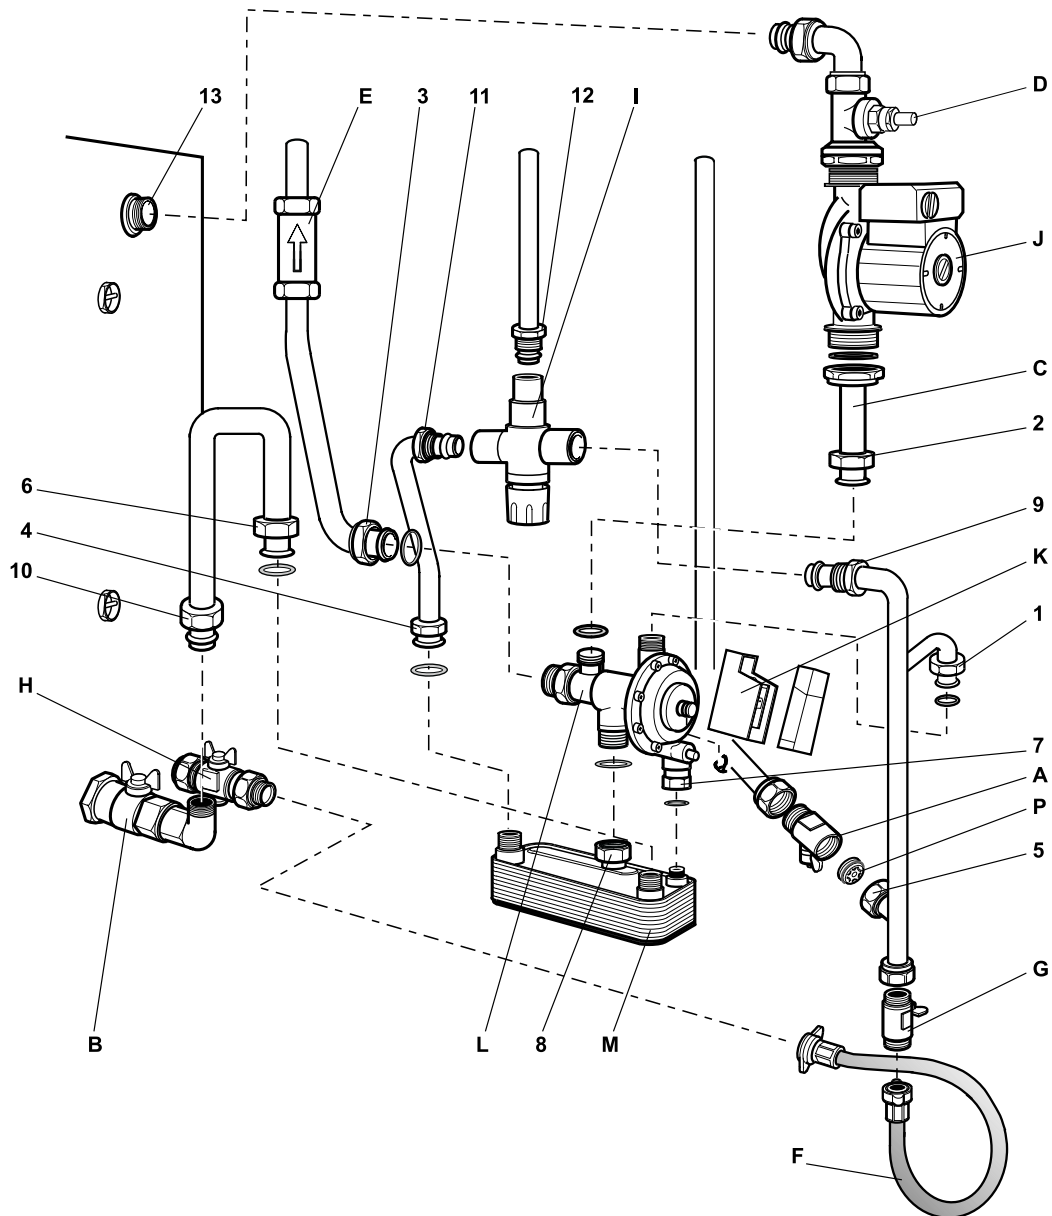

Fig. 38 - Combi 70 water components/connections
- 10 Open the cold water inlet valve (A) and primary return isolating valve (B) and pump isolating valve (D). Refill the central heating system as described in section 5.2, checking for leaks.
- 2 Unscrew and disconnect pipe unions 1, 5 & 9. See Fig. 38 or 39. Remove the vertical 15 mm pipe from the boiler.
- 6 Open the cold water inlet valve (A). Refill the central heating system as described in section 5.2, checking for leaks.
- 2 Close the cold water inlet isolating valve (A). Refer to Fig. 38 or 39.
- 3 Unscrew and disconnect pipe unions 1, 5 & 9. See Fig. 38 or 39. Remove the vertical 15 mm pipe from the boiler.
- 3 Unscrew and disconnect pipe union 3 from the rear of the diverter valve. See Fig. 38.